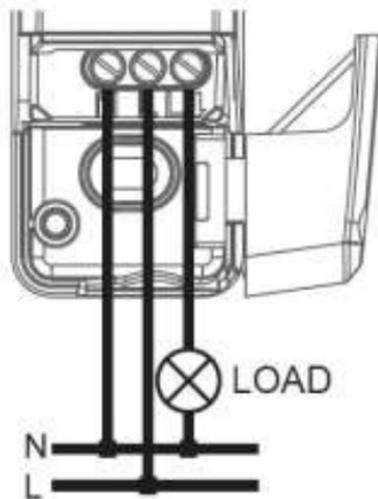

Fig. 2
- Ensuring correct polarity is observed, terminate the mains cable Live (Brown), Neutral (Blue) and the L ▼ (Load Live) into the power module (see Fig. 2)